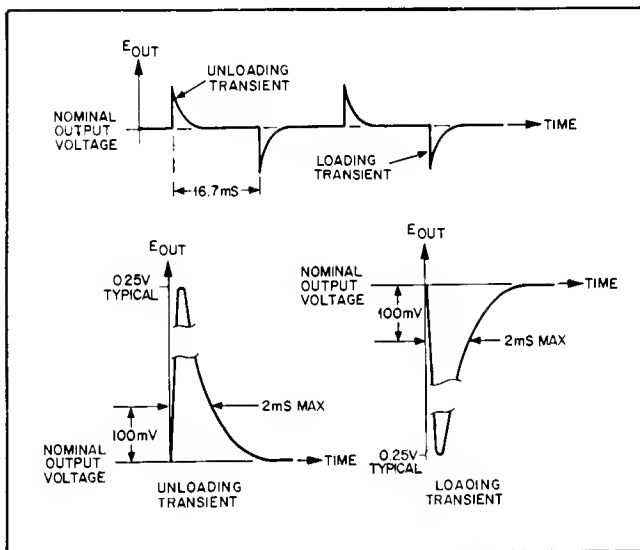

Figure 5-6. Load Transient Recovery Waveforms
- Adjust oscilloscope to display transients as in Figure 5-6.